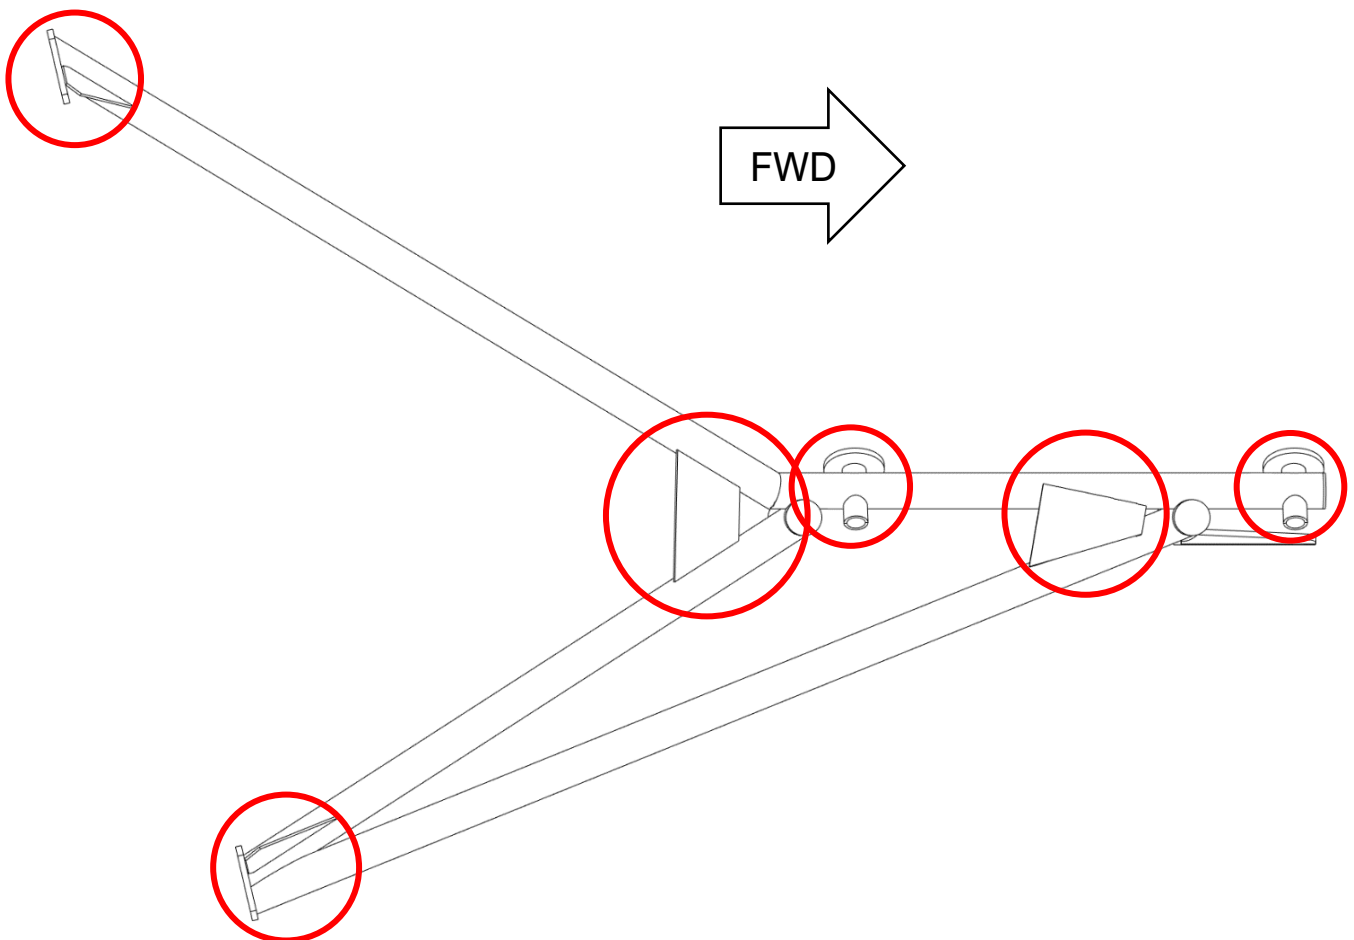

Fig. 1: Engine mount-right side
4. Inspect all welds with an inspection mirror and looking for cracks. One side of the engine mount with marked welds is on Fig.1, 2 and 3. **These pictures are valid for both sides.**